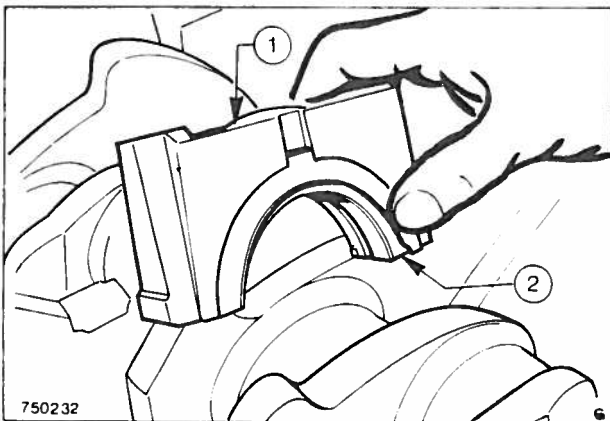

Fig. 26 Replacing the main bearing cap
7. Lightly oil the main bearing liners with clean engine oil and position them in the cylinder block. The bearings with an oil hole only should be fitted at the rear. Fit the crankshaft, thrust washers and main bearing caps ensuring that the arrow heads on the caps face the front of the engine – see Fig. 26. Tighten the main bearing cap bolts in two stages as specified (see Specifications).